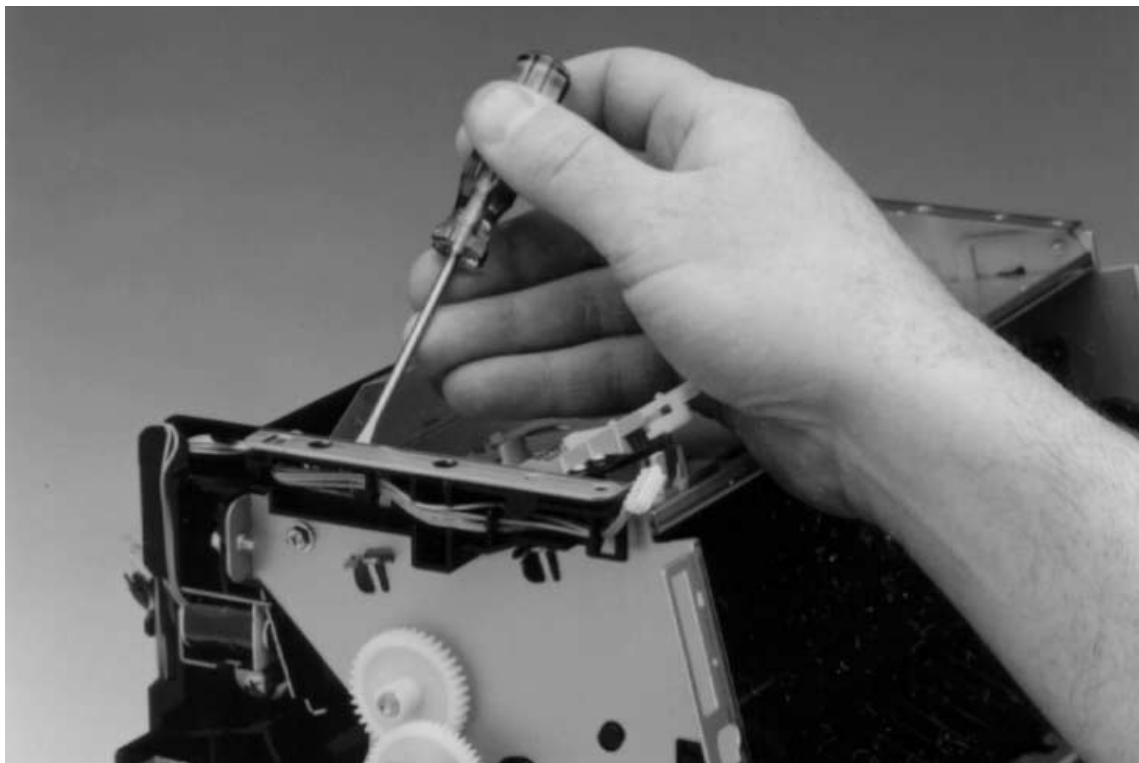

Figure 6-27 Paper Feed Frame removal (2 of 4)
- 4 Release the catch on the control panel cable guide by using the small flathead screwdriver to push on the tab (Figure 6-27). Then slide the guide off.